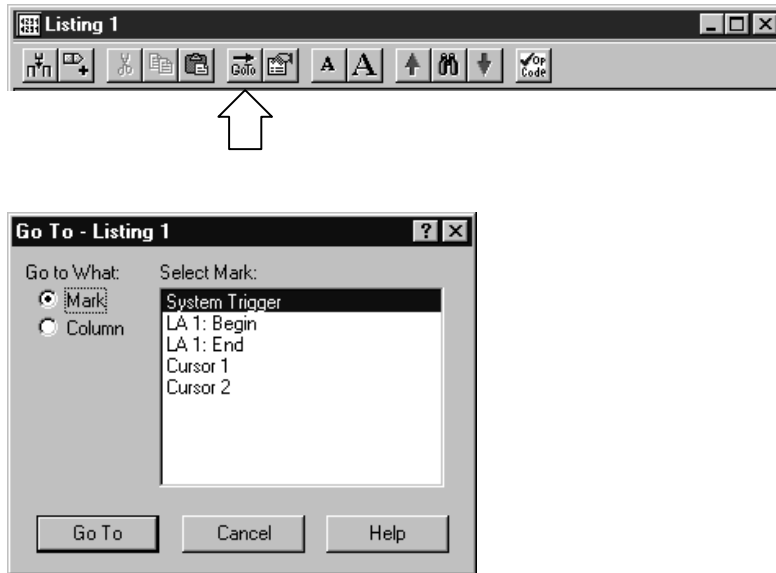

Figure 3-47: Using the Go To dialog box to jump to the system trigger
You can use the Go To dialog box to jump to a new position by selecting any current mark or waveform. See Figure 3-47 on page 3-74.
- To open the Go To dialog box, open a data window and click the Go To toolbar button, as shown in Figure 3-47.